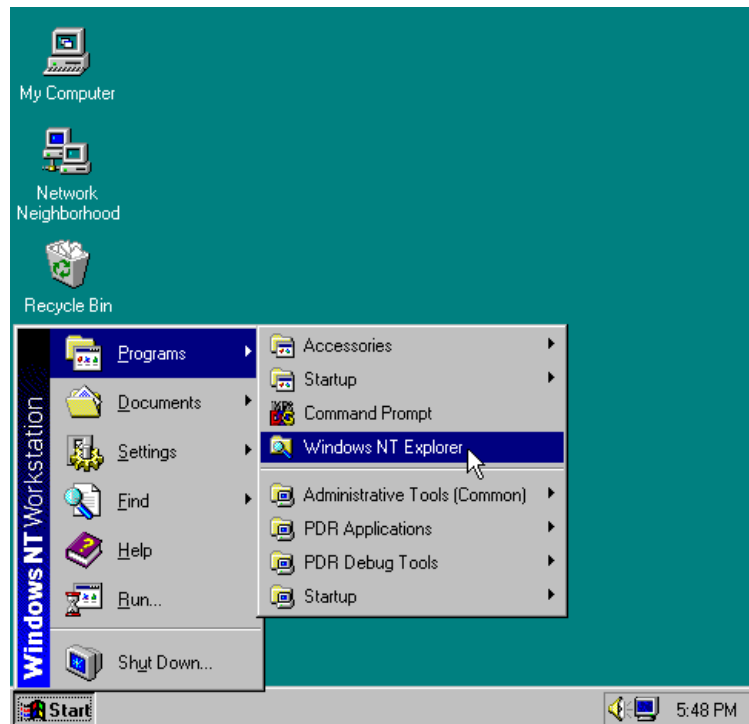

Figure 3 - Starting the Windows NT Explorer
2. Close the 'welcome' window which comes up and then run the Windows Disk Administrator from the start menu by clicking on the  button. Select 'Programs' → 'Administrative Tools' → 'Disk Administrator' from the menus and then click on its icon:  (Figure 3, page 9, shows how to start things from the start menu).
2. Run the Windows NT Explorer as shown in *Figure 3*, above, and double click on the CD-ROM drive (Z:) to list its contents.